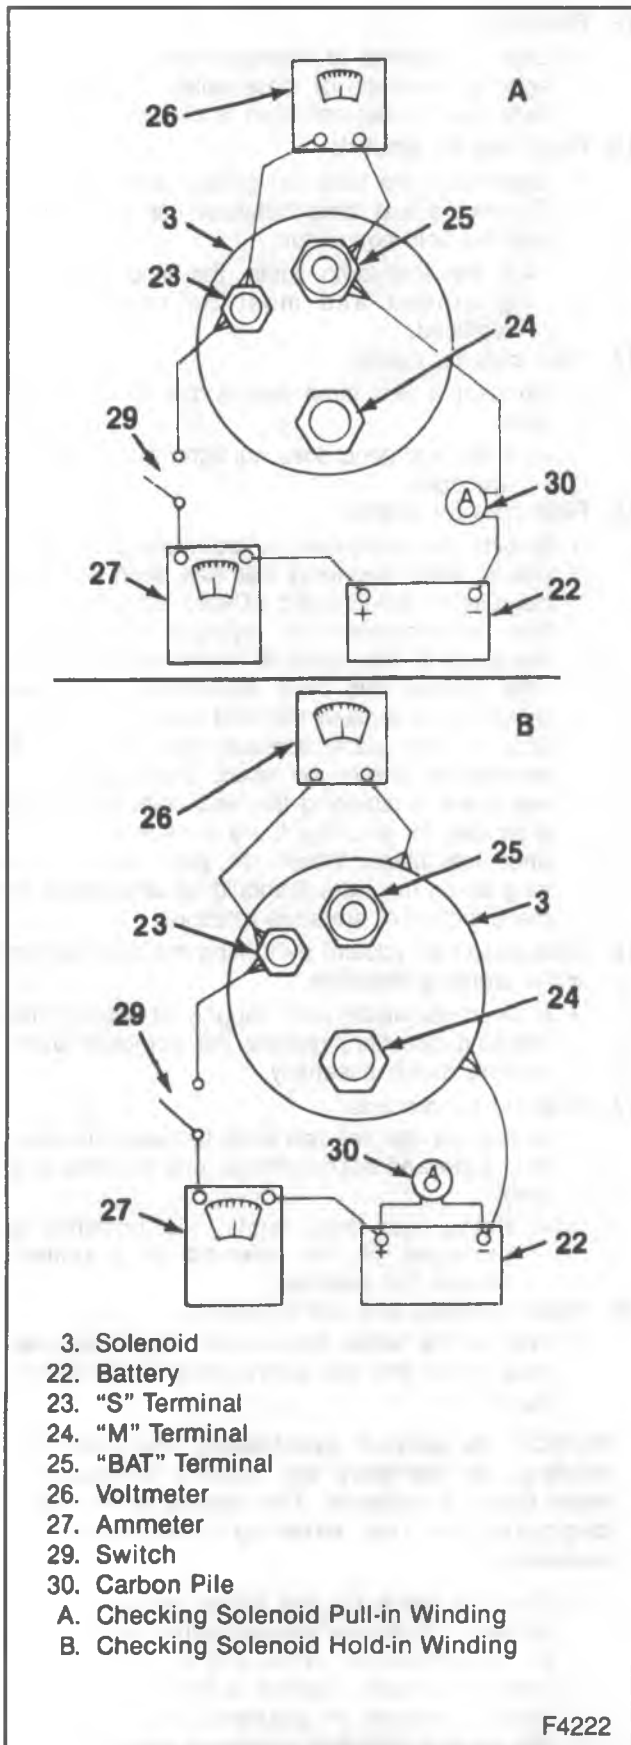

Figure 15—Solenoid Test Connections
- With all the leads disconnected from the solenoid, make the test connections as shown in figure 15.